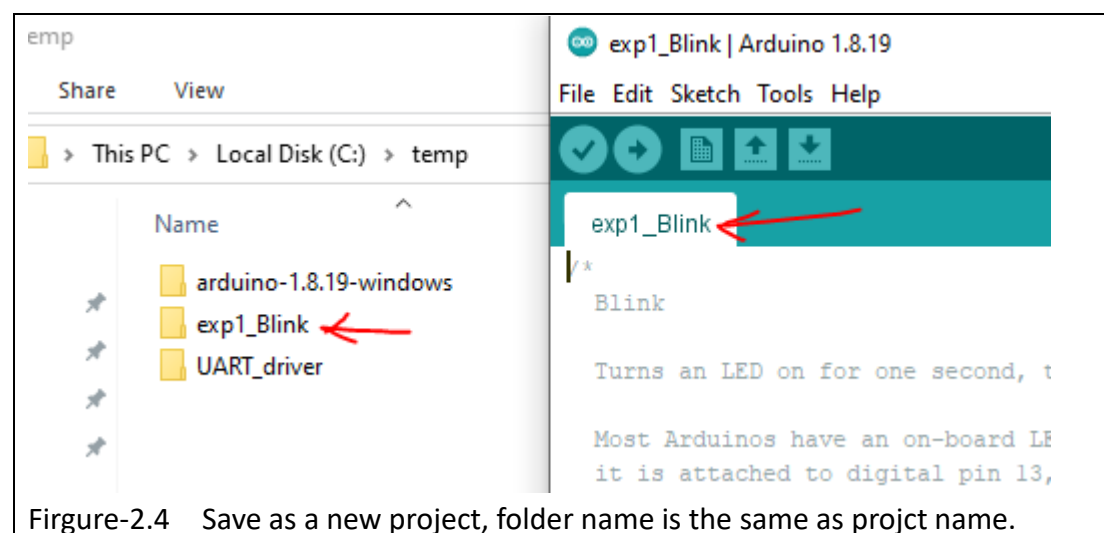

Figure-2.4 Save as a new project, folder name is the same as project name.
**Important:** A new folder will be generated as the project name (Figure-2.4). Do not modify the folder name, the Arduino project (\*.ino) must under the folder with the same name.